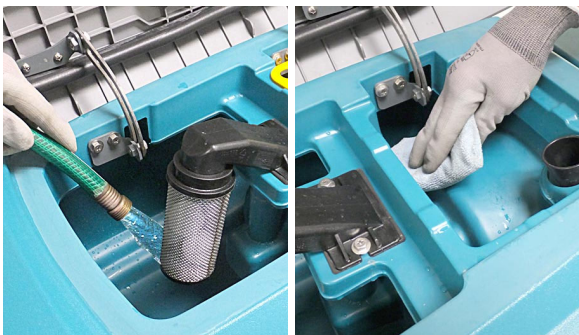

FIG. 83
5. Rinse out the recovery tank with clean water and wipe clean of any soil residue (Figure 83).